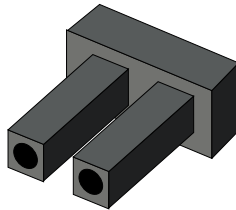

Figure 1-6 Fiber-Optic Protective Plug
- **Fiber-optic protective plug** - For safety and port transceiver protection, fiber-optic protective plugs (Figure 1-6) must be inserted in all switch ports without fiber-optic cables attached. The switch is shipped with protective plugs installed in all ports.